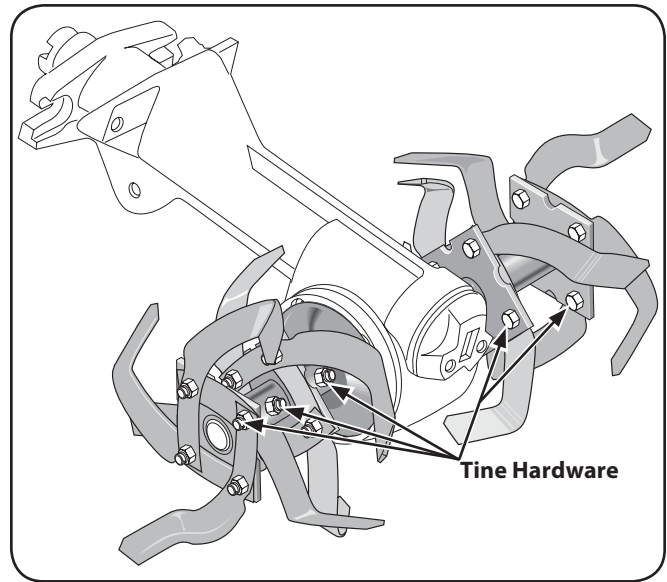

Figure 6-4
- Check the four bolts and nuts securing left and right tine holders to the tine shaft. See Fig. 6-4.